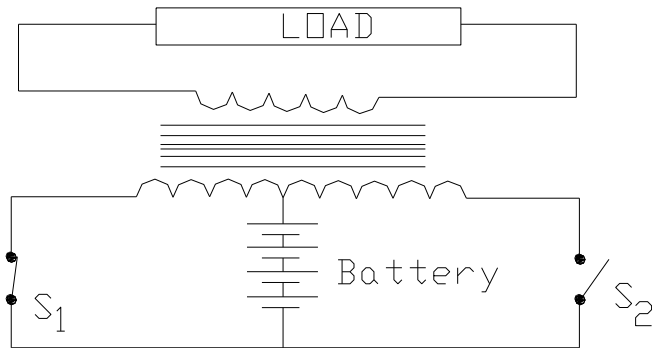

Figure C1
Figure C1 shows the basic circuit of a inverter. DC supply is connected through switch S1 and S2 to the primary windings of the transformer. Switches S1 and S2 shall work alternately i.e. when S1 switch will be in close(ON) position, switch S2 will remain open(OFF) and vice versa. When S1 switch is ON & S2 switch is (OFF), current flows in primary winding A, causes induced e.m.f and flow of current in secondary winding in one direction.